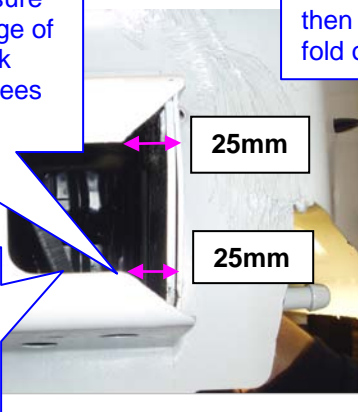

Fig 8
4. Cut rear panel & impact beam as per figs A on page 2& fig 8 on page 4 then coat with anti rust paint.
- Mark out rear panels as shown in figures 8 & 9 then cut section of panel out with tin snips or small hacksaw.
- Fit loose arm inside the drivers chassis rail see fig 8 then feed M10 bolt on wire up the chassis rail to align with M11 hole drilled in step 14a see fig 10.